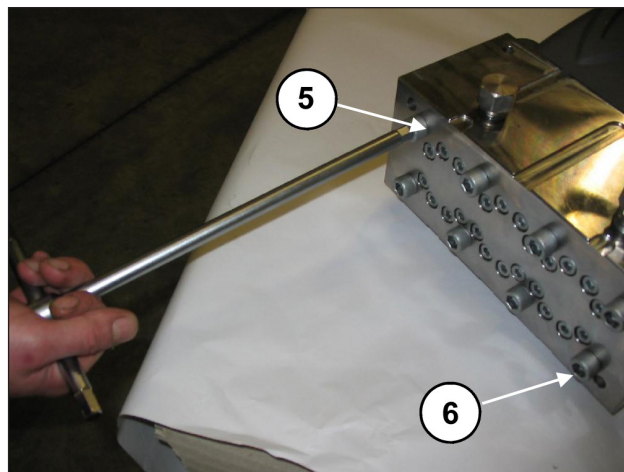
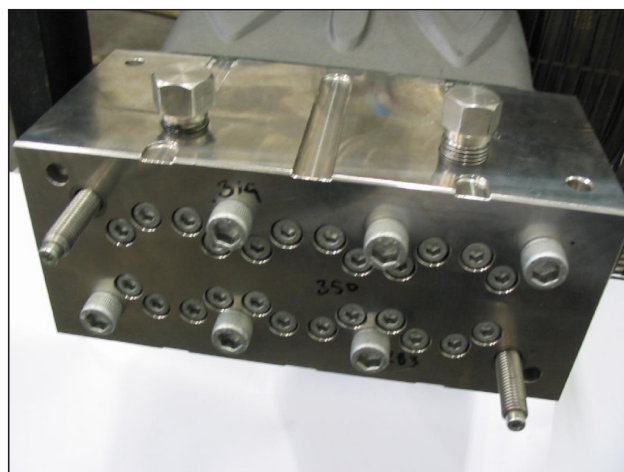

Fig. 35
Fig. 36
- Unscrew the M12x260 head fixing screws No. 5 and No. 6 as shown in Fig. 35 replacing them with two service pin-screws (code 27508200) as indicated in Fig. 36, then take out the remaining screws.